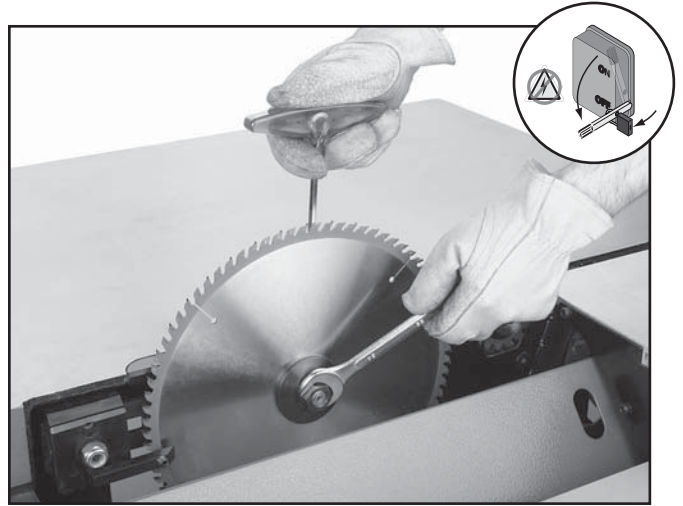

Figure 49. Replacing the main blade.
7. Re-install the arbor flange and the arbor nut and tighten them against the blade as shown in **Figure 49**.